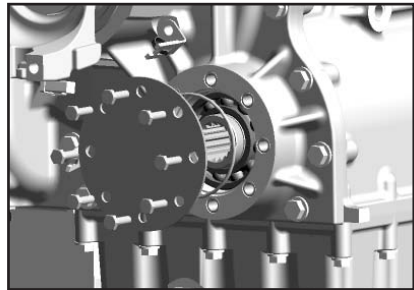

Fig. 14
3. Remove the O-Ring and clean the aperture surface. (Fig. 14)